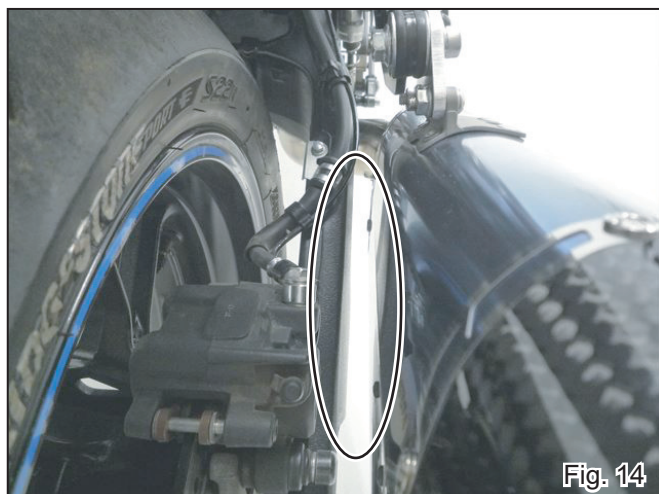

Fig. 14
11) Check there are proper clearances between Yoshimura exhaust system and each component. Then, tighten and torque all fixed bolts and nuts at exhaust port, Tailpipe, Silencer Bracket #1/#2 and Silencer Assy in order. (See Fig 14, 15)